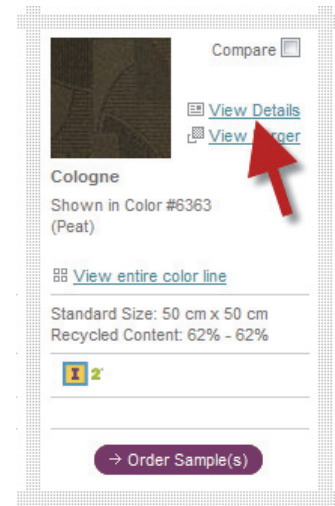

FIGURE 4-3.6 Produce preview data
12. Find color **6363 (Peat)** as shown in Figure 4-3.6; click **View Details**.